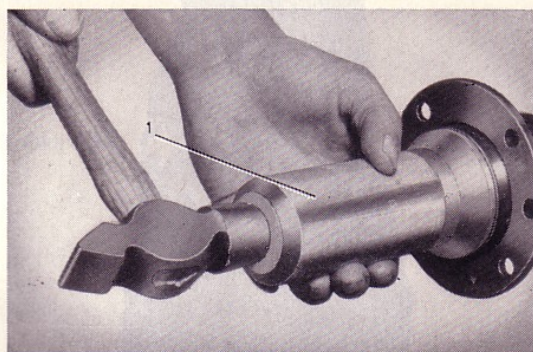

Fig. 31. Fitting the bearing race.
3. Pack the bearings with high-quality heat-resistant grease. Insert the drive shafts into the rear axle housing. Drive in the bearing outer races with sleeve SVO 2205, see Fig. 31.